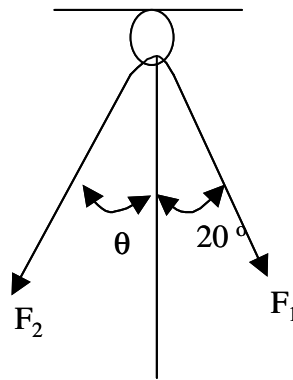

Figure 1
2. The ring shown in Figure 1 is subjected to two forces, F_1 and F_2 . If it is required that the resultant force has a magnitude of 1 kN and be directed vertically downward, determine,